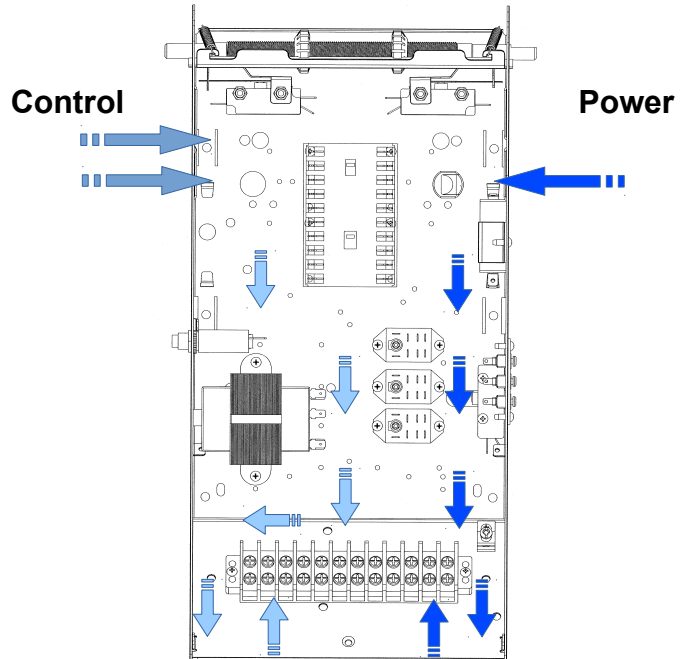

Figure 18 - Low Voltage (Controls)
1. Route the power line wire from the right of the control box, as shown in Figure 18.
2. Route all low voltage control wires from the left of the control box, as shown in Figure 18. **KEEP LOW VOLTAGE WIRES SEPARATE FROM LINE VOLTAGE WIRES.**